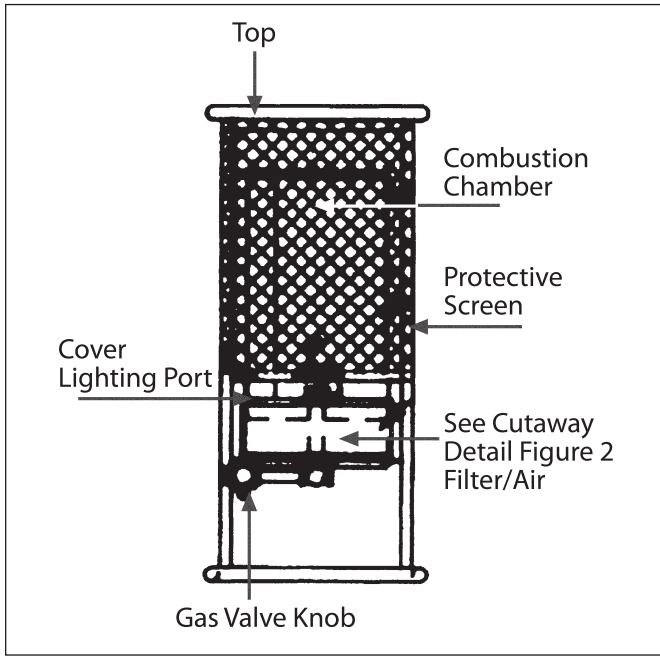

Figure 1
- 3 Depress knob then turn the gas valve knob clockwise to the "OFF" position. See Fig. 1 and Fig. 2 for location of appliance parts.
- 6b To light the pilot, move the lighting hole cover aside (see Fig. 1) and place a lighted match into the hole. Depress the gas valve knob and hold while lighting and observing the pilot burner. Ensure that the pilot burner ignites from the match. Allow the pilot to burn approximately 30 seconds before releasing the gas valve knob. If pilot does not remain lighted, repeat the lighting operation allowing a longer period of time before releasing the gas valve knob.
7. Turn the gas valve knob counter-clockwise to the "ON" position (see Fig. 1). The burner will light. Turn knob clockwise until stop for low fire position.